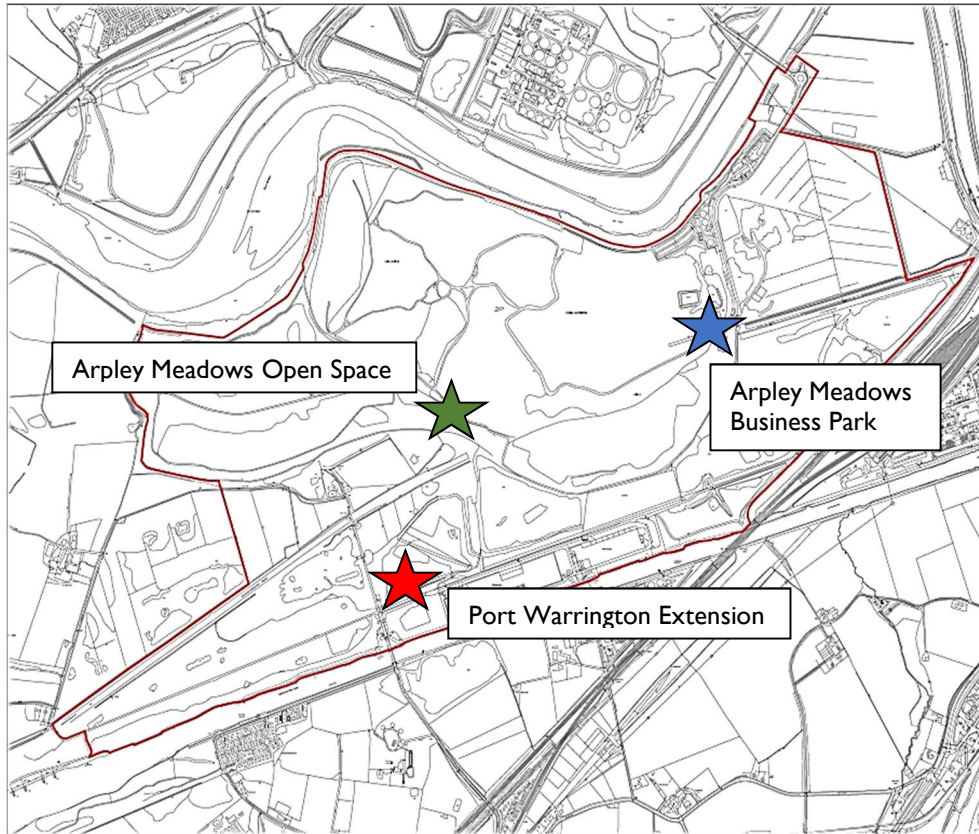

Figure 1.3 Development Areas
1.4. The client's proposals for the Port Warrington development is separated into three distinct areas as shown in **Figure 1.3**;